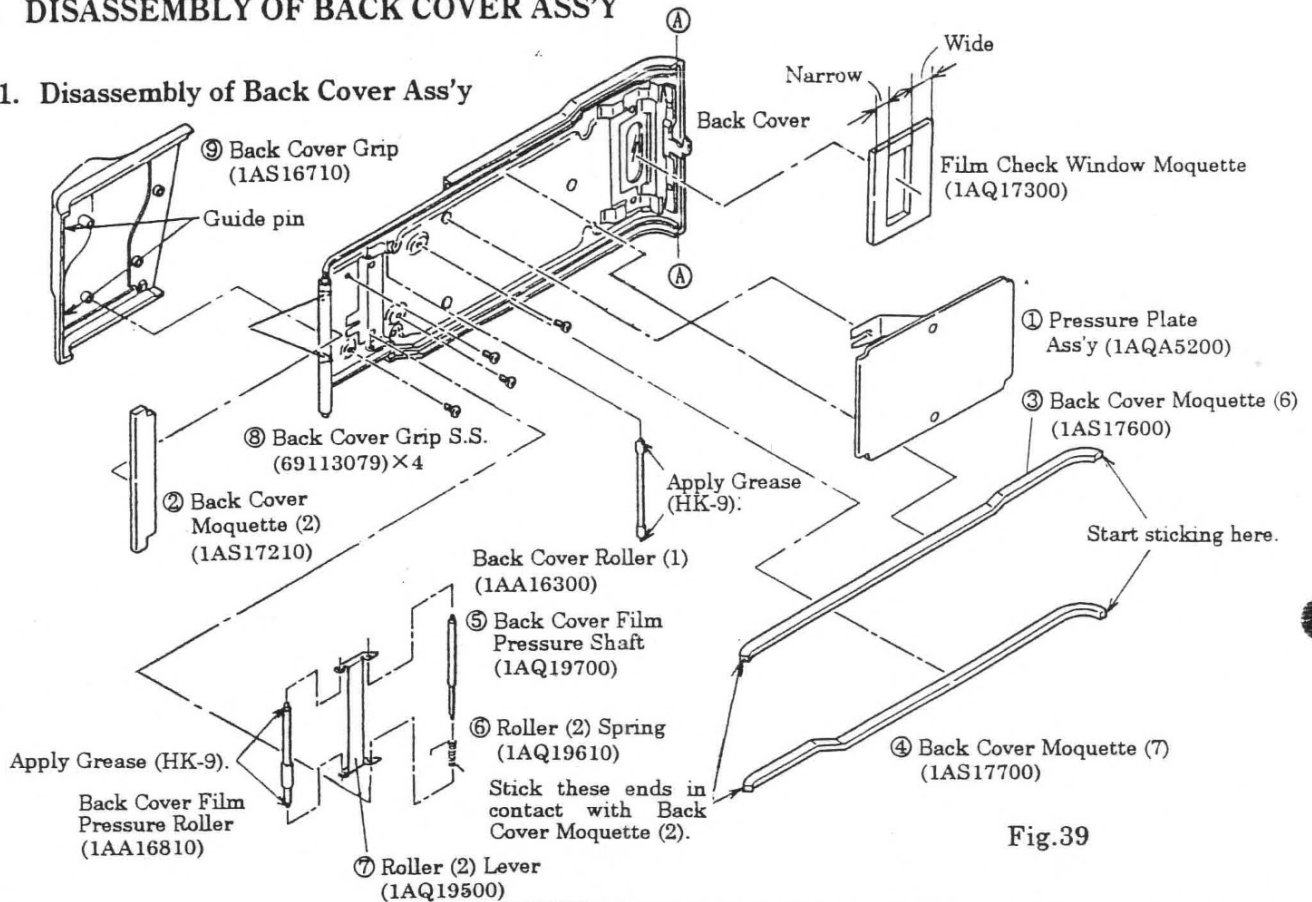

Fig.39
- 1) Remove parts in the numerical order of ① to ⑨ shown in Fig. 39.